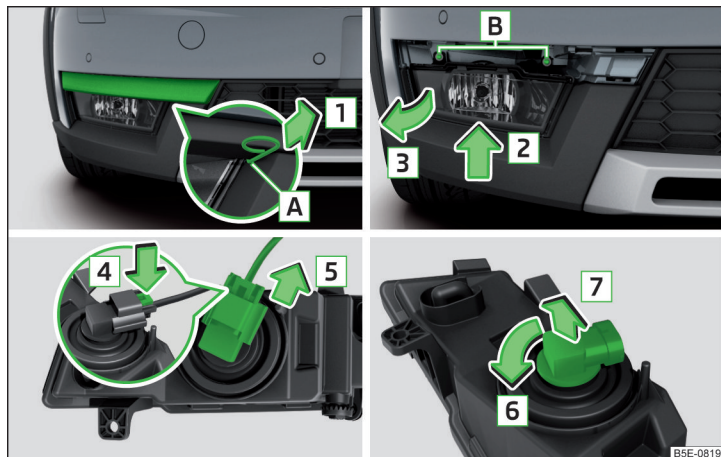

Fig. 352 Remove the fog lamp / bulb change - variant 2
- › Insert the clamps for removing the full wheel trims into opening **A** » Fig. 352.
- › Replace the fog light by inserting it in the opposite direction of the arrow **3** » Fig. 352 and tighten.